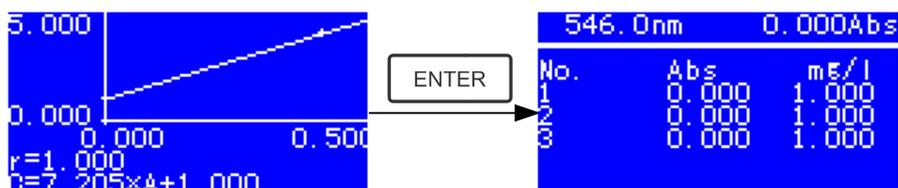

Fig. 4-12
- ★ Pull the Reference solution in the light path and press to go into the continuous measurement interface. (Fig. 4-12)
- ★ Press to go into sample continuous measure interface and measure samples. (Fig. 4-12)